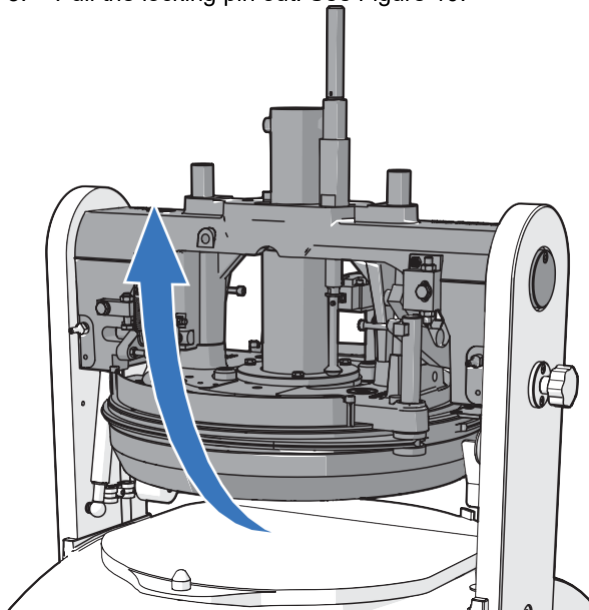

Figure 11 Tilt the dividing disc forward
4. Tilt the dividing disc forwards. See Figure 11. Dividing disc will turn with the help of a gas spring.